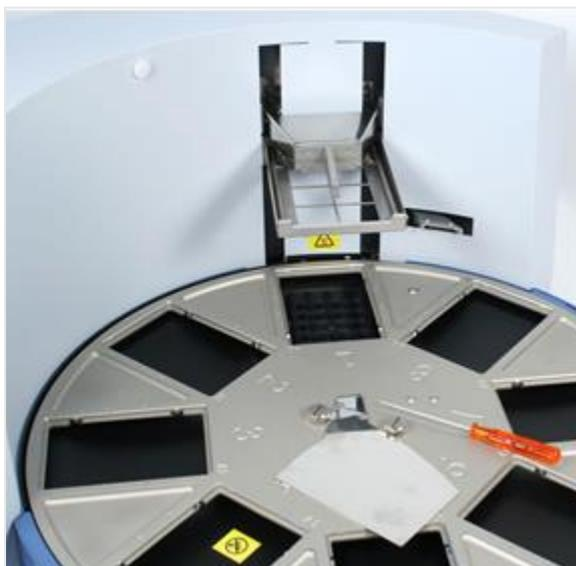

Figure 15. Shield plate prior to fitting
2. The shield plate must be installed prior to use of the instrument. Use a hexagonal screwdriver (Allen key) to fasten the two screws (Figure 15).